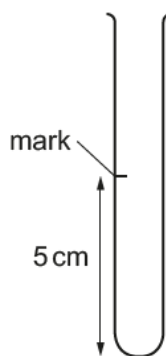

Fig. 1.4
- 11 Put a mark 5.0 cm from the bottom of each of the test-tubes, as shown in Fig. 1.4.